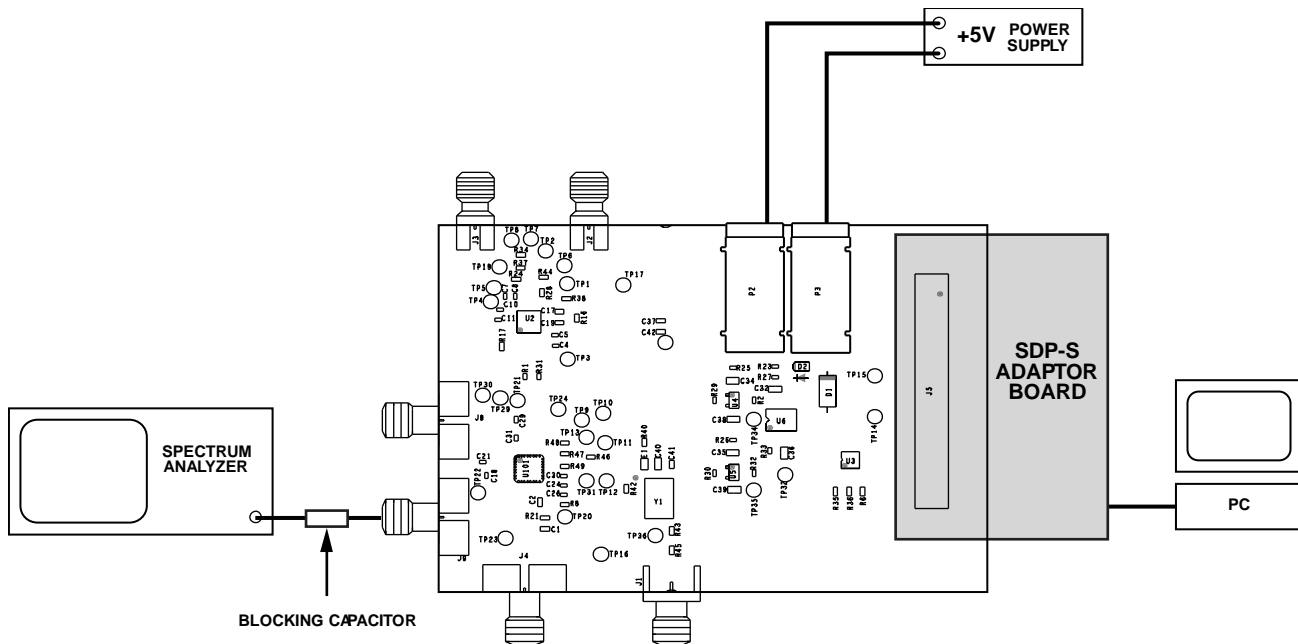

Figure 6. Typical EV-ADF5901SD2Z Evaluation Board Setup
6. In the ADF5901 Controls tab, click **Initialize ADF5901** to power up and calibrate the ADF5901. See Figure 6 for the suggested setup.